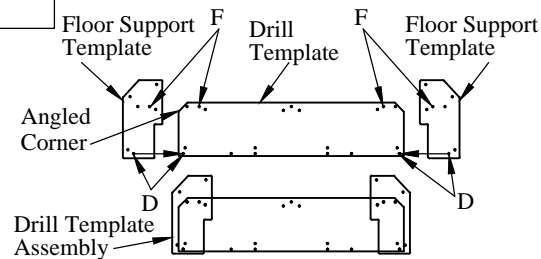

Figure 4: Drill template assembly.
2. Bolt the floor support templates to the drill template (Figure 4).